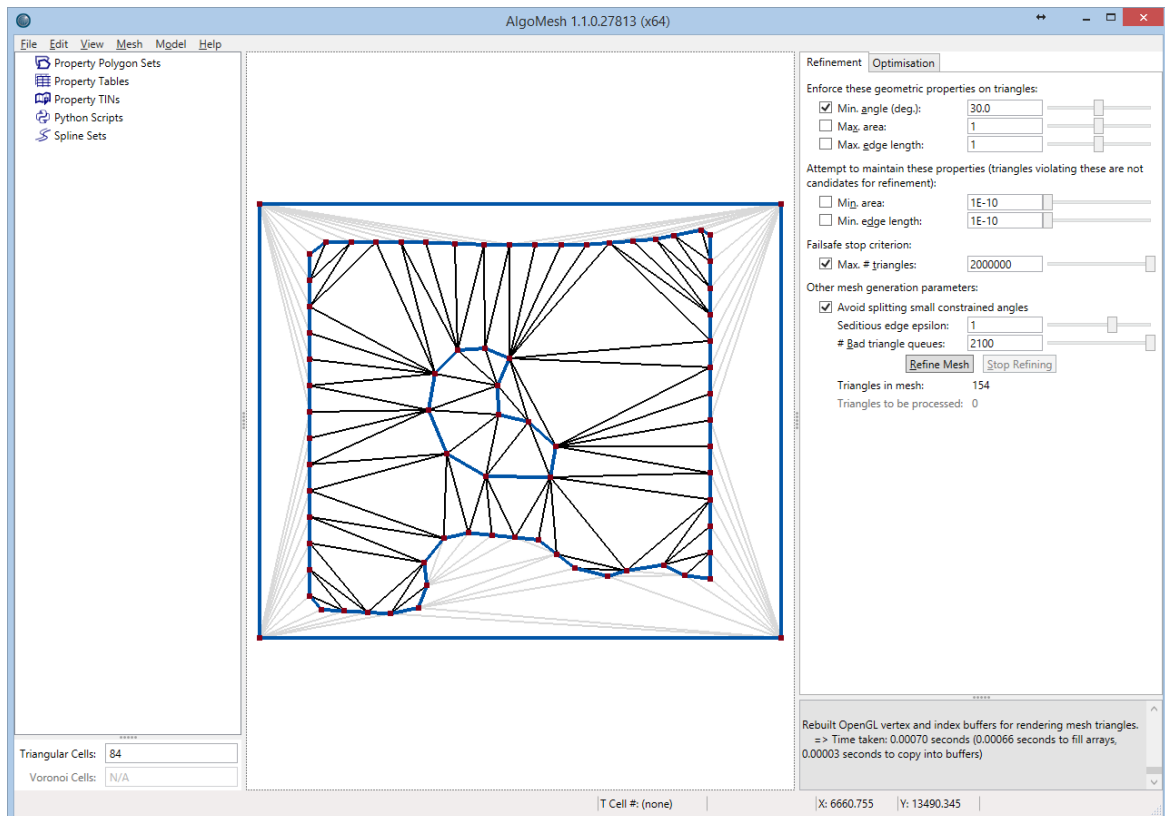

Figure 69: The newly created polygonal region near the centre of the mesh.
- Continue holding **Ctrl+Shift** to **create points in a loop**, as in Figure 69, ending up nearby, but not on top of, the first point you created. If needed, you can use the mouse wheel to zoom in and out and get a better picture of what you're doing. Holding down the left mouse button and dragging (without Ctrl or Shift held down) pans the view.